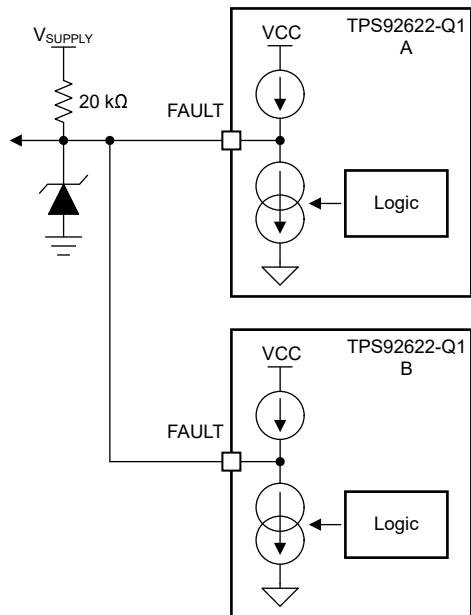
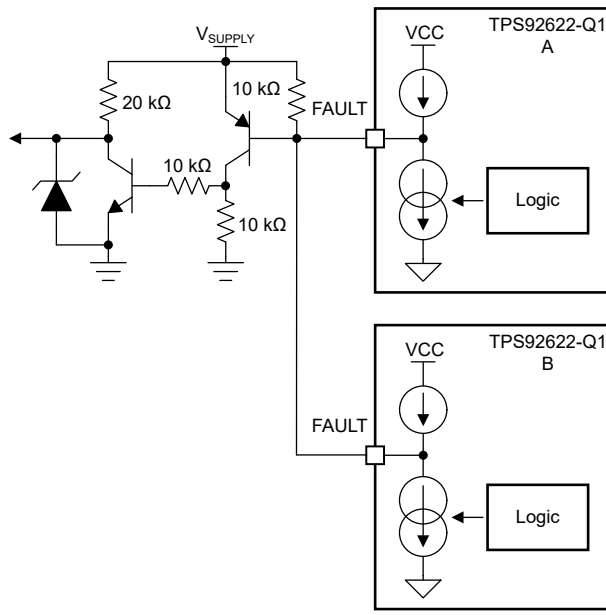

Figure 6-6. FAULT Bus for One-Fails-All-Fail Application
Figure 6-7. FAULT Bus for One-Fails-Others-On Application
Based on this feature, the TPS92622-Q1 device is able to construct a FAULT bus by tying $\overline{\text{FAULT}}$ pins from multiple TPS92622-Q1 devices to achieve one-fails-all-fail function as Figure 6-6 showing. The lower side TPS92622-Q1 (B) detects any kind of LED fault and pulls low the $\overline{\text{FAULT}}$ pin. The low voltage on $\overline{\text{FAULT}}$ pin is detected by upper side TPS92622-Q1 (A) because the $\overline{\text{FAULT}}$ pins are connected of two devices. The upper side TPS92622-Q1 (A) turns off all output current for each channel as a result. If the $\overline{\text{FAULT}}$ pins of each TPS92622-Q1 are all connected to drive the base of an external PNP transistor as illustrated in Figure 6-7, the one-fails-all-fail function is disabled and only the faulty channel device is turned off.